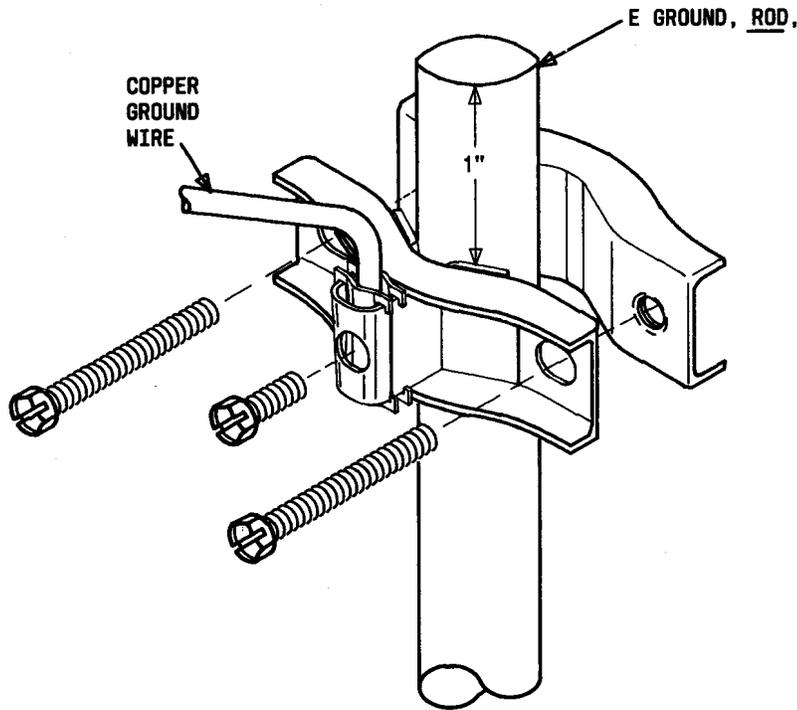

Fig. 2—Ground Wire Attachment to E Ground Rod
3.02 All ground wire terminations to the rod must be made with a C ground clamp (Fig. 2), which must be ordered separately.